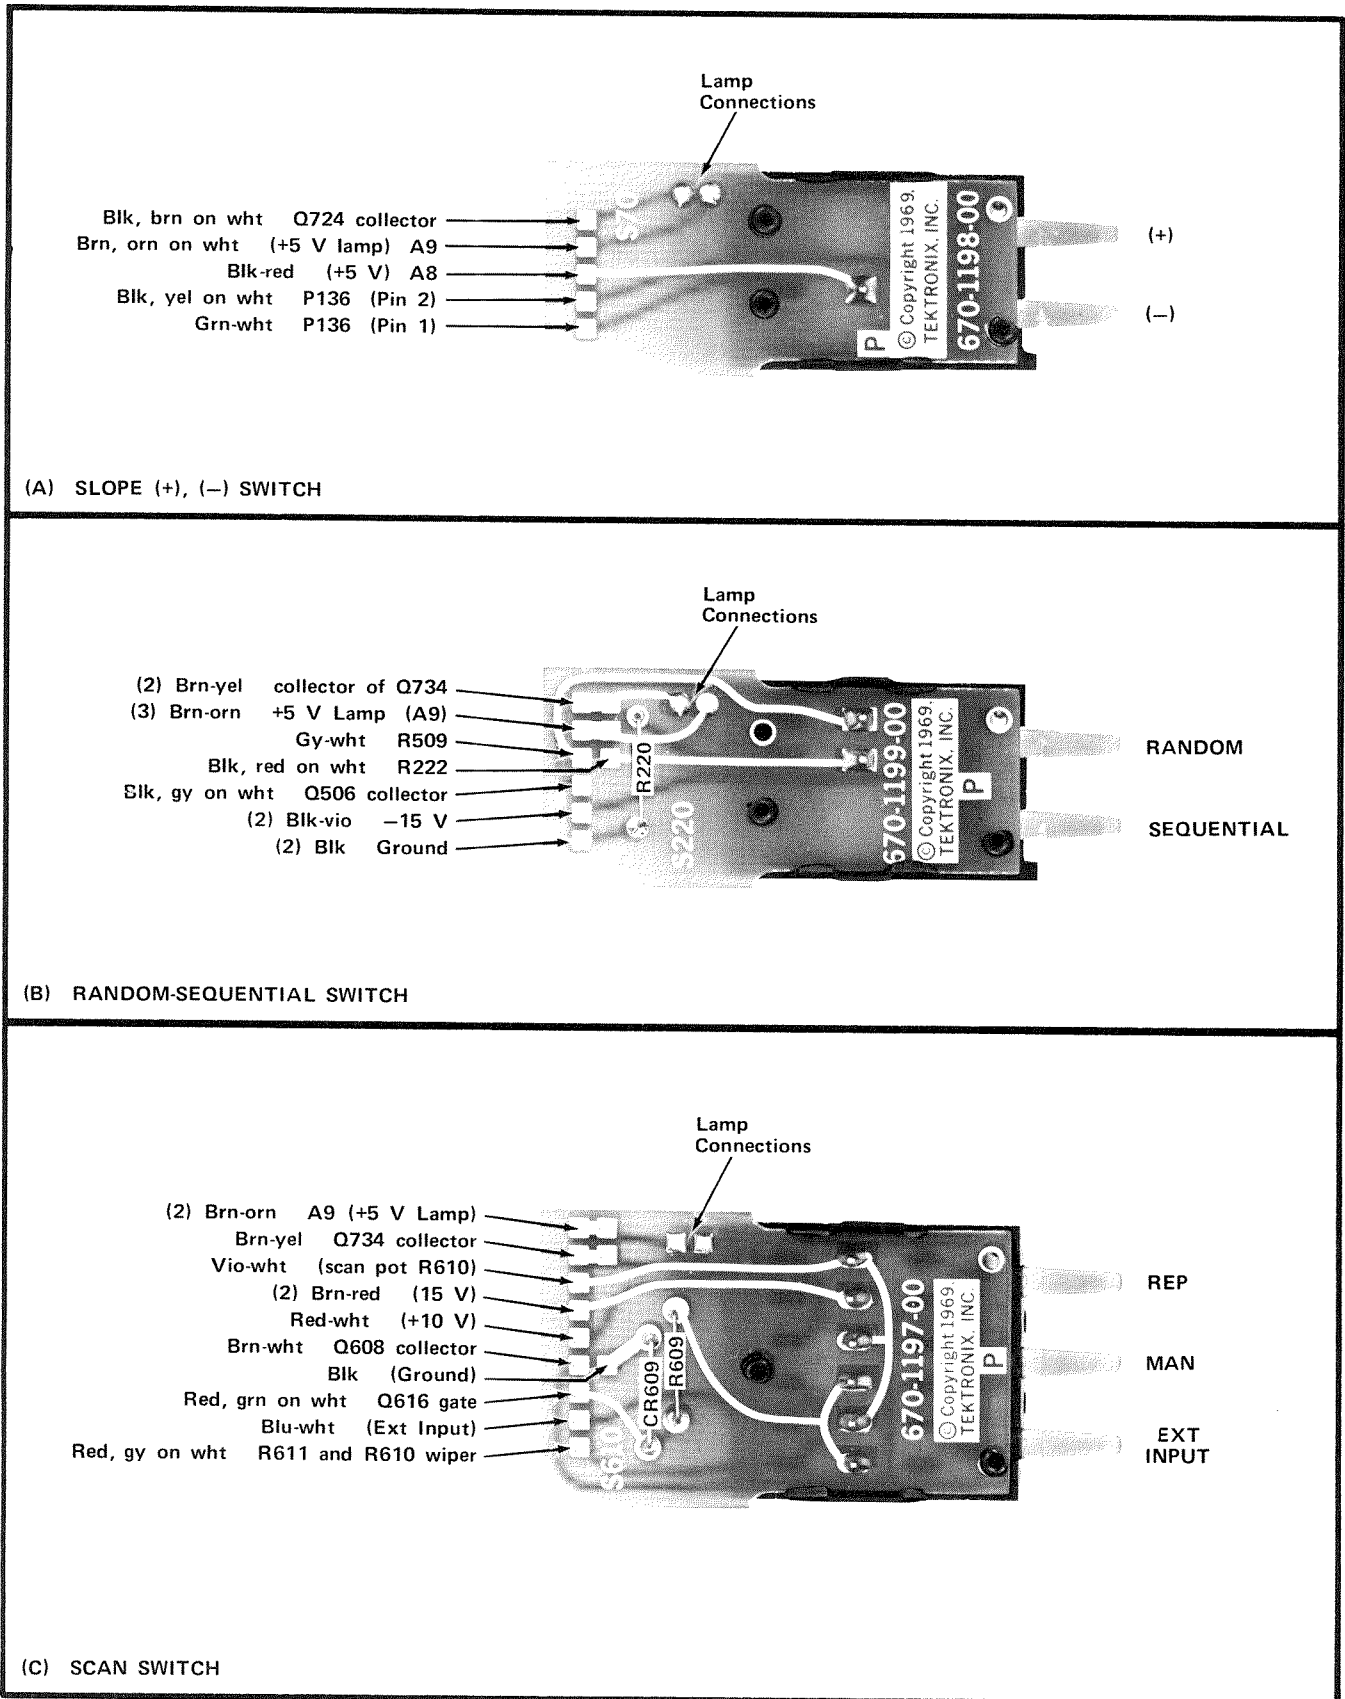

Fig. 4-5. Connections to circuit boards of the SLOPE, RANDOM-SEQUENTIAL, and SCAN switches.
4. To remove any of the pushbutton switches, remove the phillips head screws from each of the switches to be removed. Unsolder and remove any wire connected to the switch circuit board and carefully note where it belongs. See Fig. 4-5 and 4-6.